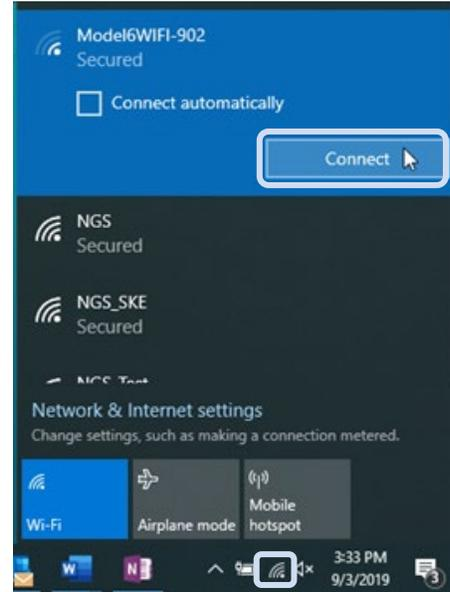

Figure 23: Select Model 6 Prover wireless network (Windows 10 shown)
1. Select the Prover network name Model6WIFI-### from your list of available wireless networks (Figure 23).